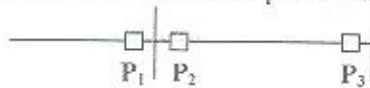

Fig. 1
- 1-e In the part of the network shown in Fig. 1, the minimum and maximum operating times for each relay are 0.6 and 2.0 cycles, and each circuit breaker has the minimum and maximum operating time of 2.0 and 5.0 cycles. Assume that a safety margin of 3.0 cycles between any primary protection and backup protection is desirable.  $P_2$  is the local backup for  $P_1$ , and  $P_3$  is the remote backup. Draw a timing diagram to indicate the various times at which the associated relays and breakers must operate to provide a coordinated backup coverage for fault F. (5 points)